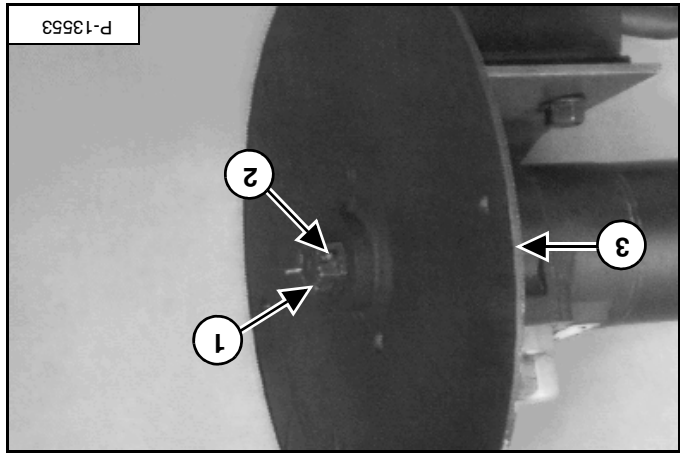

Figure 140
Remove the coter pin (item 1) [Figure 140].
Remove the castle nut (item 2) [Figure 140] from the
Remove the brush mounting plate (item 3) [Figure 140].
[Figure 140].